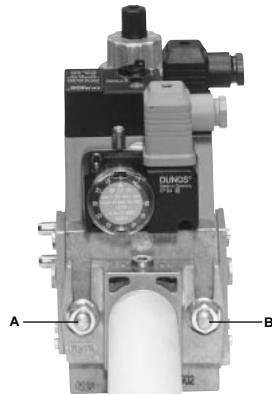
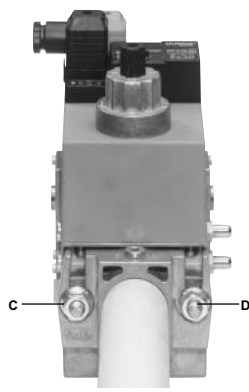
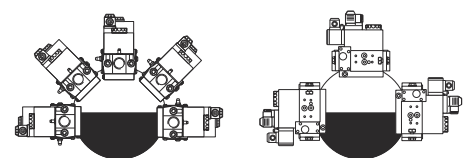

Fig. 20
Fig. 21
Fig. 23
3. tighten screws A, B, C and D (Fig. 20 - Fig. 21), according to the mounting positions (Fig. 23);
1. Loosen screws A and B **do not** unscrew (Fig. 20 - Fig. 21).
2. unscrew screws C and D (Fig. 20 - Fig. 21).
3. Remove MultiBloc between the threaded flanges (Fig. 21).